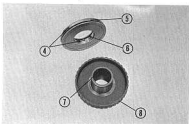

Fig. 7B-189
3. Clutch hub (Fig. 7B-189)
- Check the condition of the spline area (7) which mates with the mainshaft.
- Check the wear and fit condition of the spline area (8) which mates the driven plates.